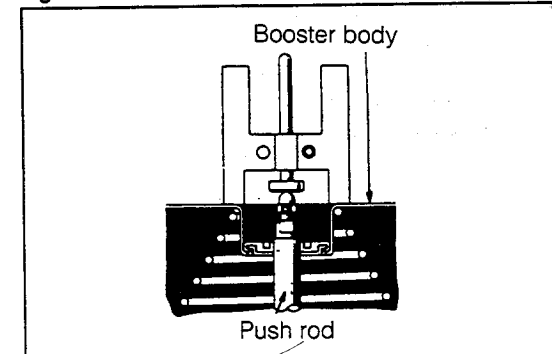

Fig. 8-55
- (2) Connect a MityVac to the union of the brake booster. Apply a negative pressure of 500 mmHg.
- (3) Set the SST as indicated in Fig. 8-55. Adjust the push rod so that the push rod clearance may become zero.